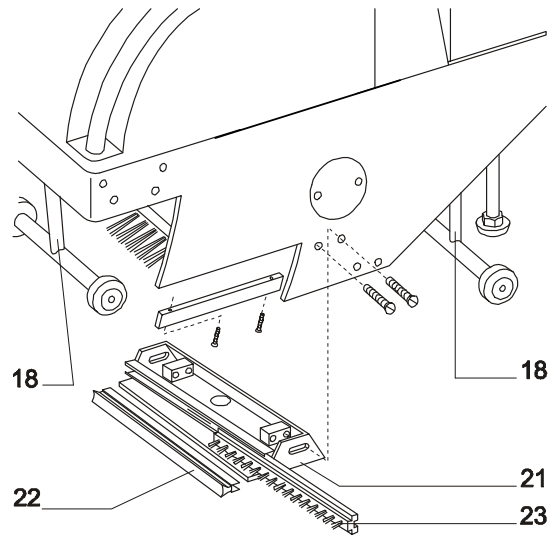
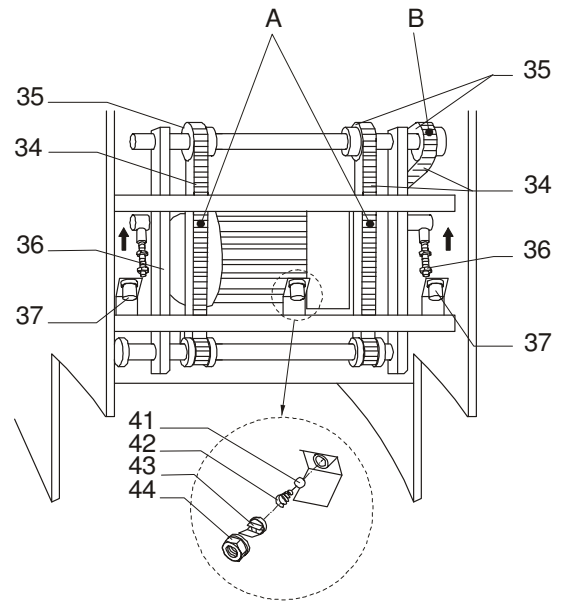

Fig. 22: Suction basin / seal strip
Fig. 24: Chain drive / spray nozzles
- Clean and lightly lubricate the extended lifting spindles (18).
- Check seal strips (22) and renew if necessary (Fig. 22: Suction basin / ).
- Remove suction basin (21) and stripping brush (23) and rinse (Fig. 22: Suction basin / seal strip)
- Check chains (34) for correct tension and, if necessary, tighten with chain adjuster 36) (see Chapter 4.6.1 Tightening the chain and Fig. 24: Chain drive / spray nozzles on page 21).
- Clean chains (34) and treat with a chain spray (15).
- Check spray nozzles (37) and clean if necessary.
- Check glide rails (28) on the right and the left. Replace if showing signs of wear (Fig. 22: Suction basin / ).
- Check seal strip (22) and renew if necessary (Fig. 22: Suction basin / ).
- Maintenance work in this case should be carried out as after 30 service hours, but here the chains (34) and chain wheels (35) must be checked for wear and replaced if required (see Fig. 24: Chain drive / spray nozzles).
(see Fig. 24: Chain drive / spray nozzles)
(see Fig. 24: Chain drive / spray nozzles on page 21)